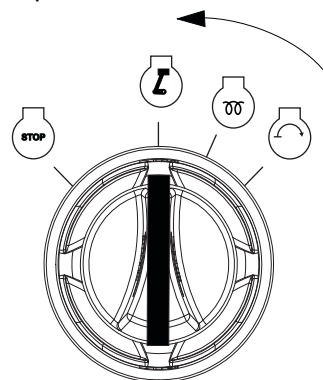

Figure 3-10. Release Key
8. See Figure 3-10. Release ignition switch. It moves to the RUN position.